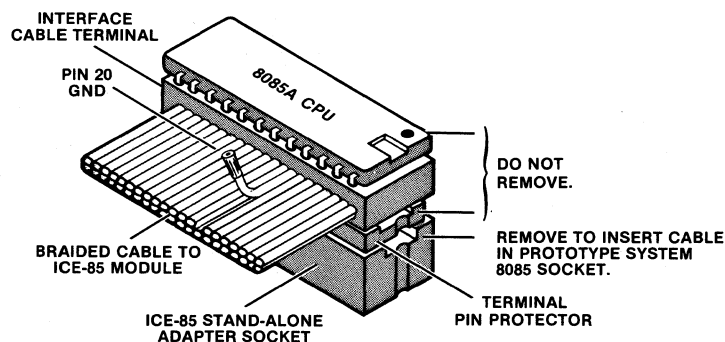

Figure 2-1. ICE™-85 Cable Terminal Assembly
- ICE-85 Module and Interface Cable (PN 4001461): A cable assembly containing 8085 logic; the cable terminal is a 40-pin connector with an 8085 CPU chip installed (Figure 2-1). The terminal is inserted in the CPU socket of the user system.
17. Locate the 40-pin terminal at the end of the Interface Cable on the ICE-85 Module (Figure 2-1). The terminal has an 8085 mounted on the top side, and the Stand-alone Adapter Socket mounted on the lower side through a terminal pin protector. If the ICE-85 system is to be used without user prototype hardware, leave the Adapter socket mounted in the terminal.
- Locate the 40-pin terminal at the end of the Interface Cable on the ICE-85 Module (Figure 2-1). The terminal has an 8085A mounted on the top side, and the Stand-alone Adapter Socket mounted on the lower side through a terminal pin protector. If the ICE-85 system is to be used without user prototype hardware, leave the adapter socket mounted in the terminal.